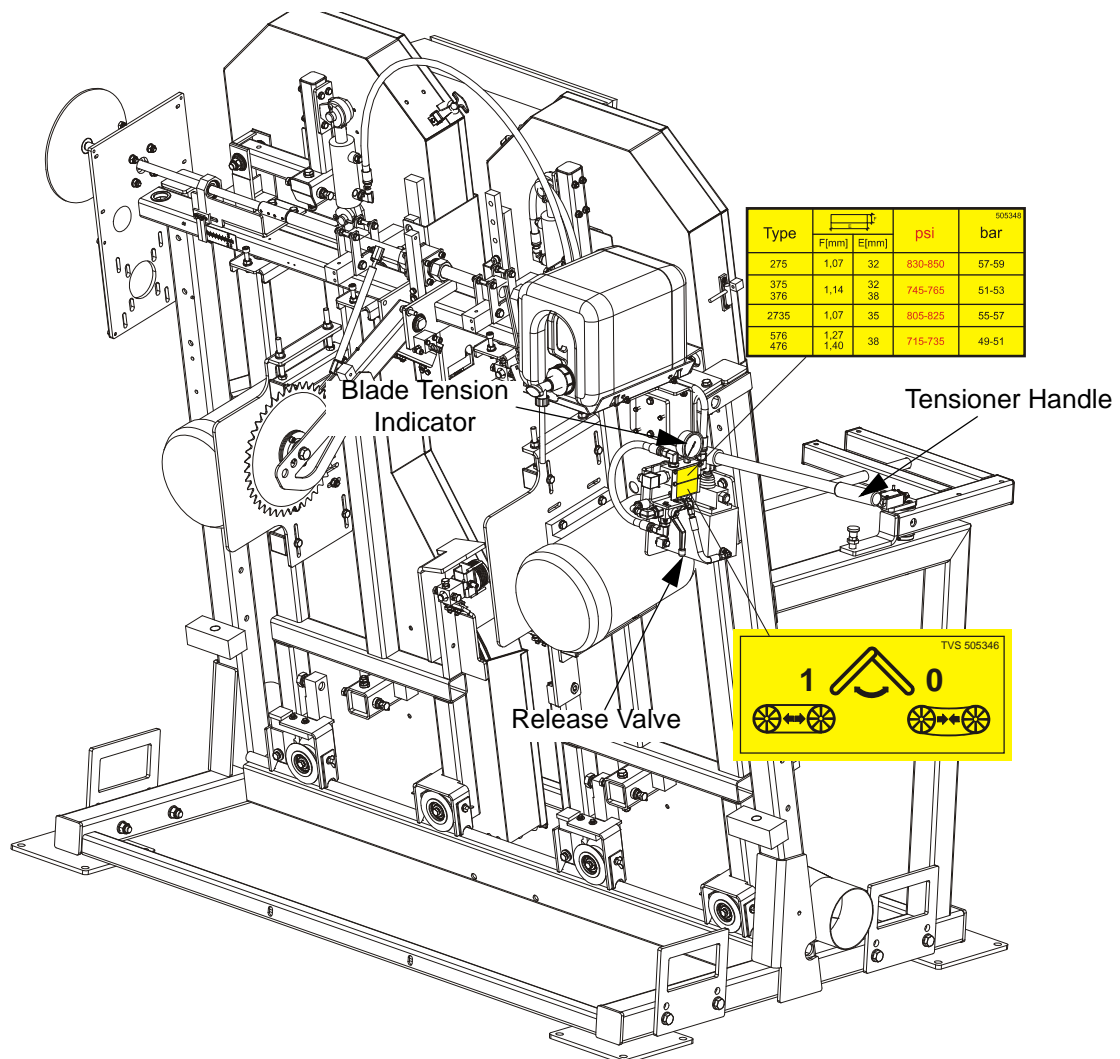

FIG. 2-3
See **Figure 2-3**. Place the provided handle in the blade tensioner socket and secure with a screw. Set the tensioner valve to position "1". Move the tensioner handle up and down to tension the blade. Depends on the installed blade type, tension the blade to the value shown on the decal located below blade tension valve. Values "F" and "E" are: blade thickness and blade width. Check the blade tension occasionally when adjusting the cant control or while cutting and adjust if necessary. As the blade and belts heat up and stretch, the blade tension will change. Also, ambient temperature changes can cause tension to change. To release the blade tension set the tensioner valve to "0"
5. Use the cant adjustment bolt, shown in **Figure 2-3**, to adjust where the blade travels on the blade wheels.